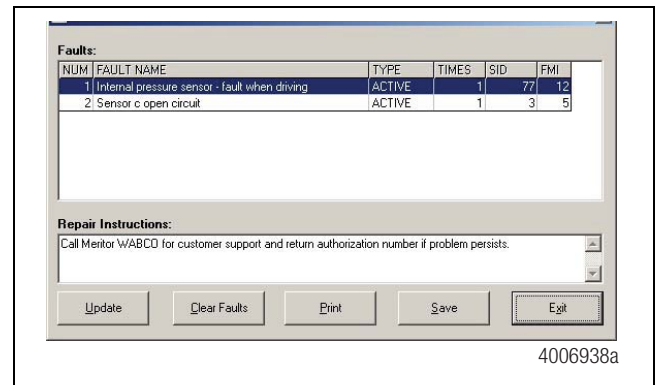

Figure 73
3. Select **Display Faults** from the pull-down menu. All active and stored faults are displayed. Figure 73.